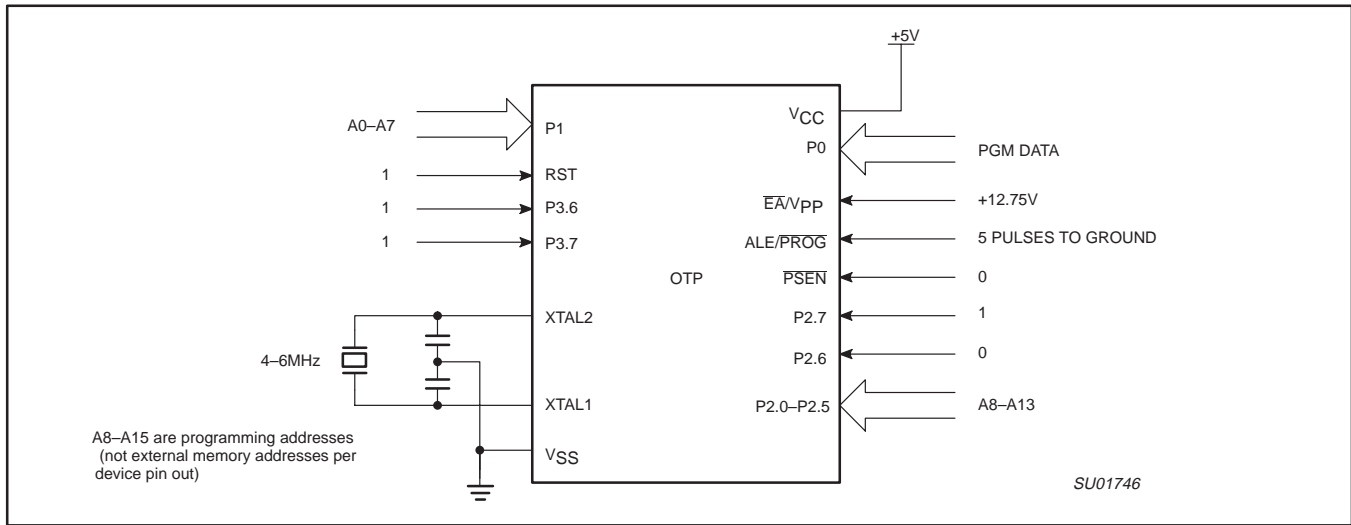
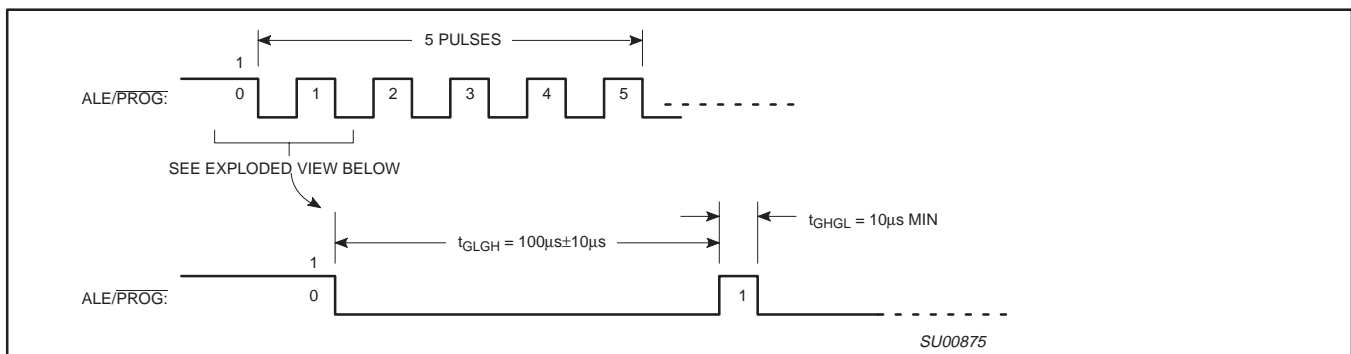
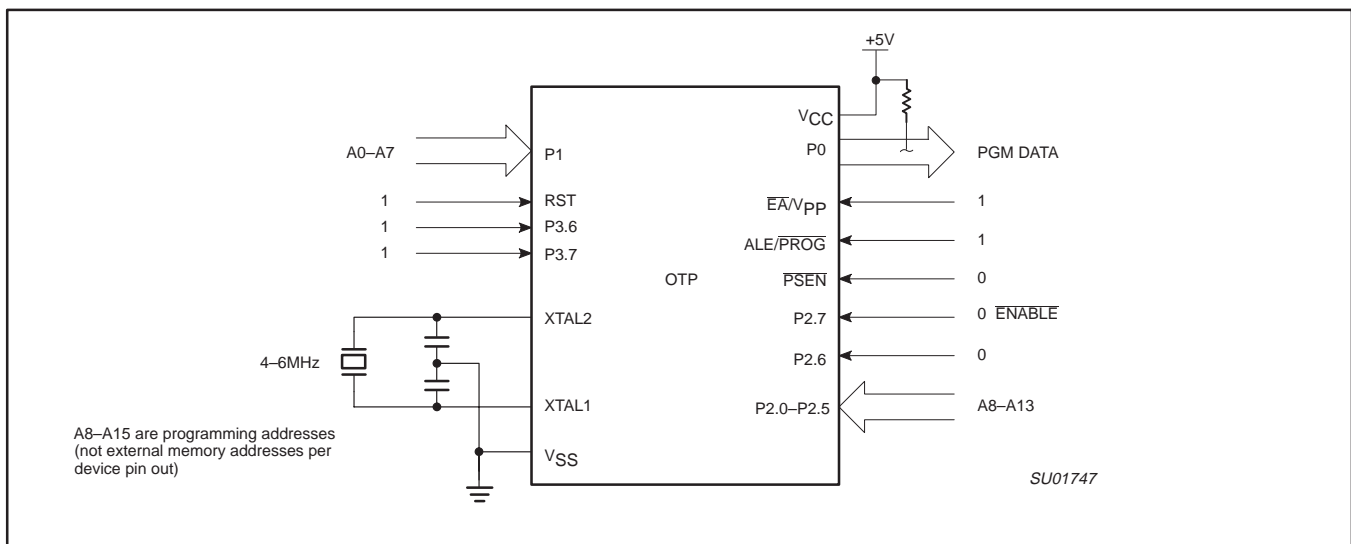

Figure 55. Programming Configuration
Figure 56. PROG Waveform
Figure 57. Program Verification
Table 15 shows the logic levels for reading the signature byte, and for programming the program memory, the encryption table, and the security bits. The circuit configuration and waveforms for quick-pulse programming are shown in Figures 55 and 56. Figure 57 shows the circuit configuration for normal program memory verification.
The setup for microcontroller quick-pulse programming is shown in Figure 55. Note that the device is running with a 4 to 6MHz oscillator. The reason the oscillator needs to be running is that the device is executing internal address and program data transfers.
The address of the EPROM location to be programmed is applied to ports 1 and 2, as shown in Figure 55. The code byte to be programmed into that location is applied to port 0. RST, \overline{PSEN} and pins of ports 2 and 3 specified in Table 15 are held at the 'Program Code Data' levels indicated in Table 15. The ALE/PROG is pulsed LOW 5 times as shown in Figure 56.
If security bits 2 and 3 have not been programmed, the on-chip program memory can be read out for program verification. The address of the program memory locations to be read is applied to ports 1 and 2 as shown in Figure 57. The other pins are held at the 'Verify Code Data' levels indicated in Table 15. The contents of the address location will be emitted on port 0. External pull-ups are required on port 0 for this operation.
- * FOR PROGRAMMING CONFIGURATION SEE FIGURE 55.
FOR VERIFICATION CONDITIONS SEE FIGURE 57.